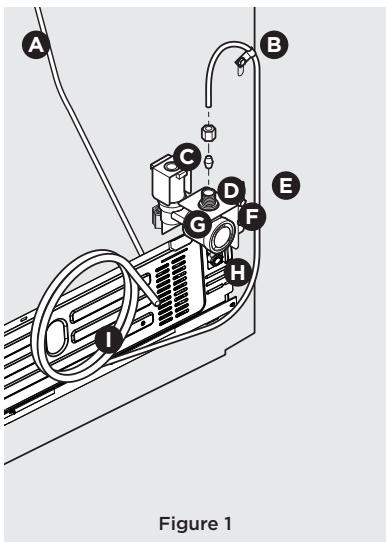

Figure 1
4. **If you use copper tubing** - Slide the brass compression nut, and then the ferrule (sleeve) onto the water supply line. Push the water supply line into the water valve inlet as far as it will go ( $\frac{1}{4}$ " / 6.4 mm). Slide the ferrule (sleeve) into the valve inlet and finger tighten the compression nut onto the valve. Tighten another half turn with a wrench; DO NOT overtighten. See Figure 1.